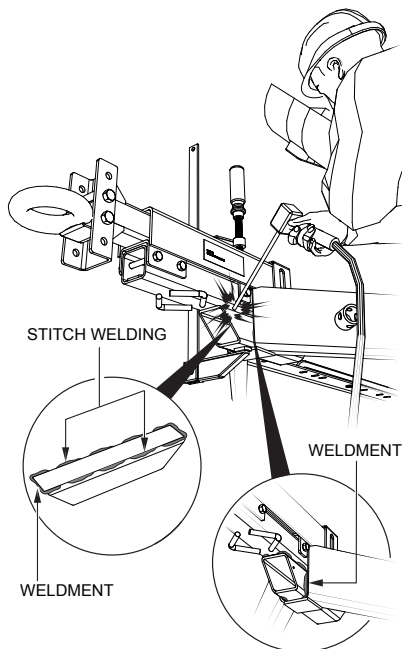

Figure 6. Welding Hitch Mount Brace
- Weld hitch mount brace (Figure 6) onto trailer frame.